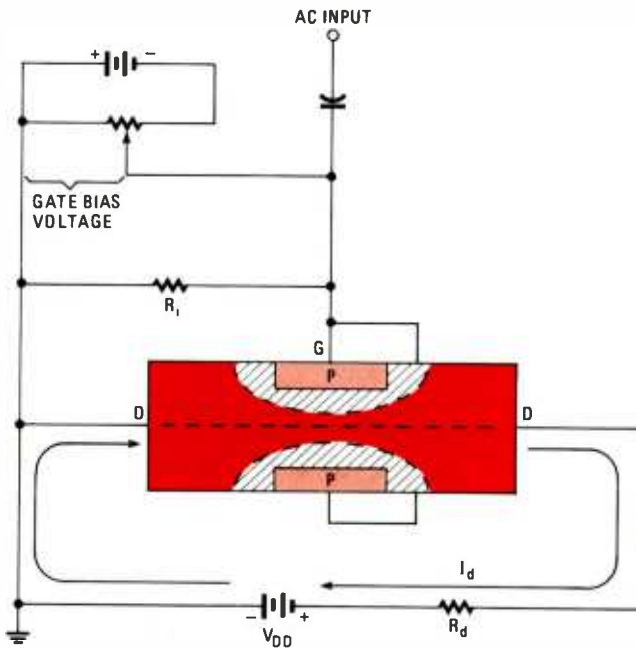
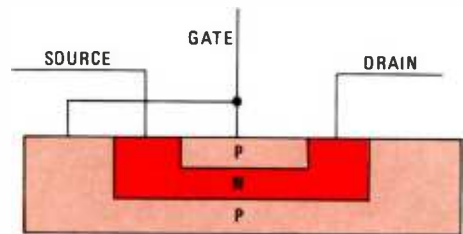
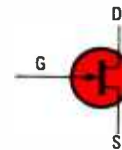

Fig. 22—Varying the gate bias controls the drain current.
Fig. 24—This is the practical geometry of an N-channel JFET.
Fig. 25—This is the generally-used schematic symbol for an N-channel JFET.
48. (bias or voltage) Connecting a voltage (bias) source between the source and gate so that the gate is negative (as shown in Fig. 22) increases the depletion region, narrowing the channel and further increasing its resistance. Increasing the bias voltage increases the resistance, and, of course, reduces the source-drain current, usually called the *drain*
50. (amplification) Because the gate junction is reverse-biased, the small AC input sees a very high input impedance. In fact, the input impedance is the value of the input resistor ( $R_1$  in Fig. 22), which is usually made very high: 1 megohm or greater. In a bipolar transistor, the input signal is applied to the base. Since base current flows, the AC signal sees a low input impedance, which is a disadvantage.
51. (high) The physical arrangement of the elements of a JFET (shown in Fig. 22) is not used in practice. Instead, a practical JFET has a geometry similar to that shown in Fig. 24. The symbol generally used to represent a FET in schematic diagrams is shown in Fig. 25.
In Fig. 24, the center element is the \_\_\_\_\_.
in Fig. 25.